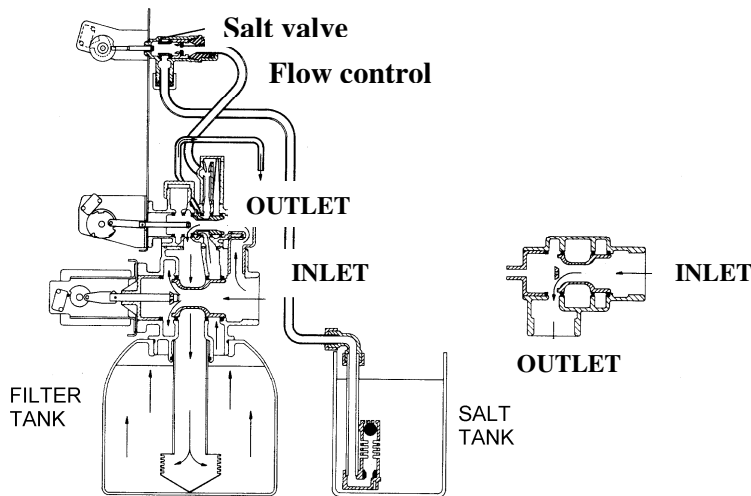

Figure 6
2. Check that the filter is in operating position, see figure 6 page 10.
Continue likewise until the cylinder unit is positioned as shown on figure 6 page 11.